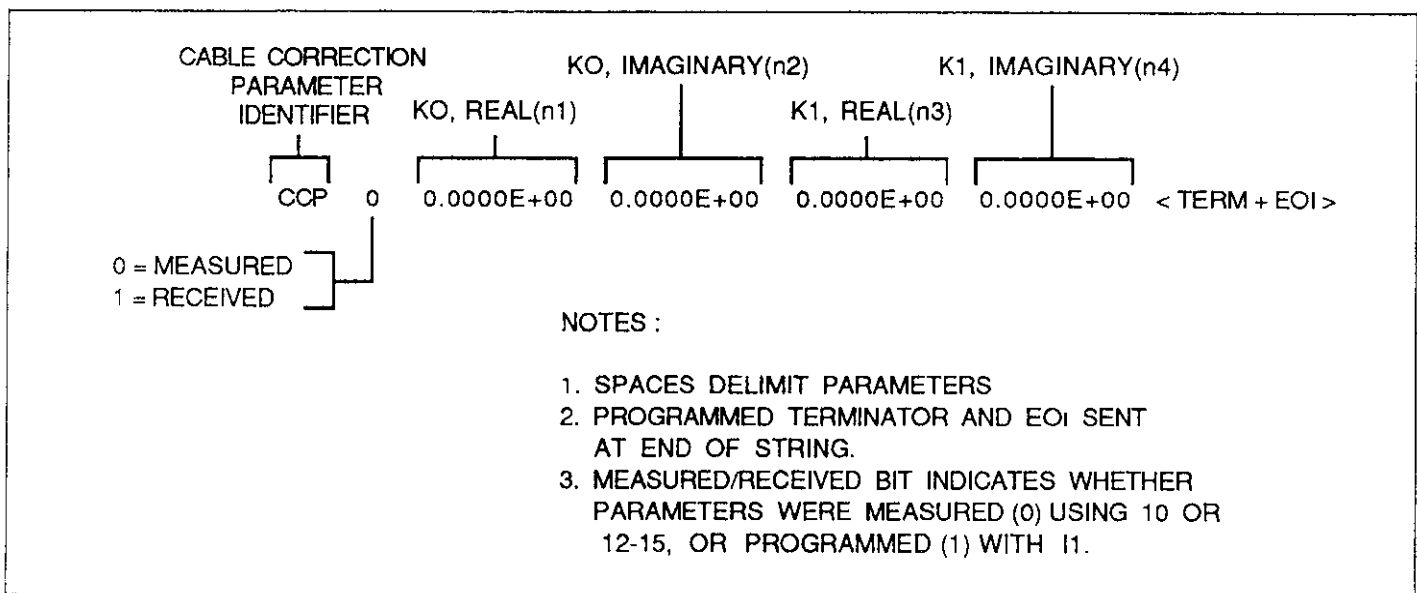

Figure 5-2. U26 Status Word Showing K0, K1 Real and Imaginary Parameters
3. Request data from the instrument as you would normal data, placing instrument status (see Figure 5-2) in a string variable. For example, a typical HP-85 statement would be: